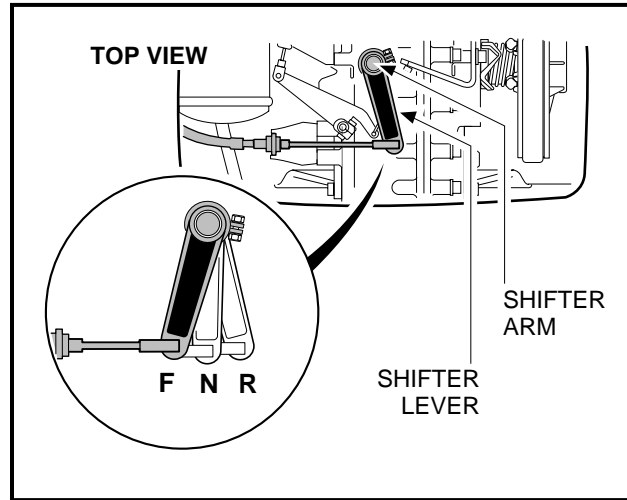
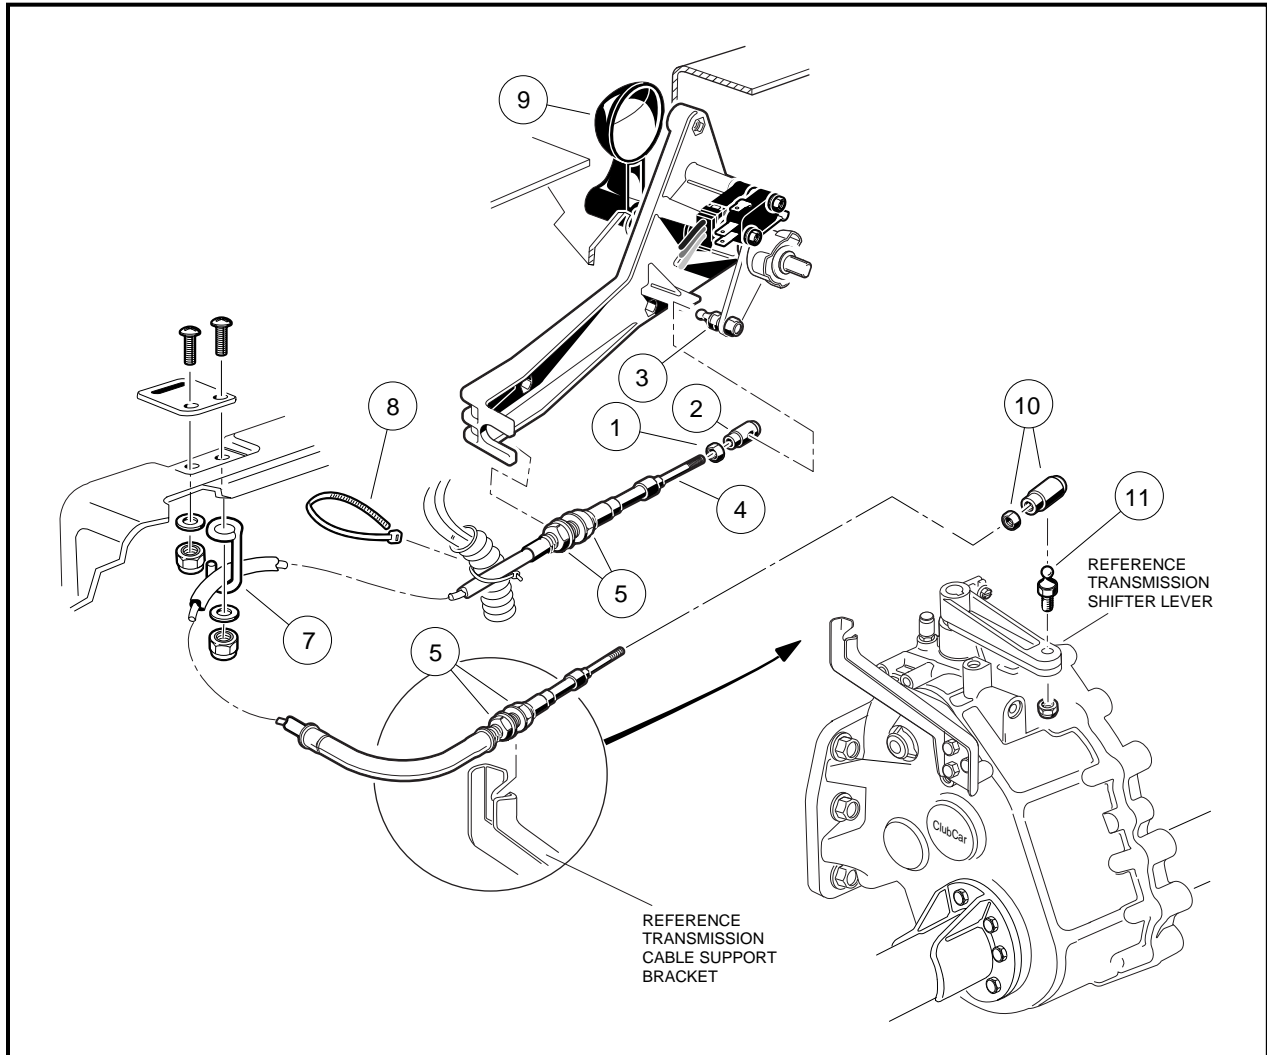

Figure 16-105 F&R Positions
Figure 16-106 F&R Shifter Cable
1. Remove the ball joint socket (2) from the F&R shifter assembly ball stud (3) (**Figure 16-106, Page 16-41**).
2. Remove the ball joint socket (10) from the shifter arm ball stud (11) on the transaxle (**Figure 16-106, Page 16-41**).
3. Loosen the retaining nuts (5) on both ends of the cable and remove the wire tie (**Figure 16-106, Page 16-41**).
2. Secure the cable with a retaining nut (5) on each side of the shifter cable support bracket at the transaxle (**Figure 16-106, Page 16-41**). Tighten nuts to 22 ft-lb (29.8 N·m).
3. Secure the cable with a retaining nut (5) on each side of the shifter cable support bracket at the F&R assembly (**Figure 16-106, Page 16-41**). Tighten nuts to 22 ft-lb (29.8 N·m).
4. Install the ball joint socket (10) on the shifter lever ball stud (11) on the transaxle (**Figure 16-106, Page 16-41**).
5. Install the ball joint socket (2) on the F&R shifter assembly ball stud (3) (**Figure 16-106, Page 16-41**).
6. Attach F&R cable at cable retainer (7).
7. Install wire tie (8) to secure wire harness to cable at the support bracket near the F&R shifter assembly (**Figure 16-106, Page 16-41**). See following **WARNING**.
With the shifter lever of the unitized transaxle in the NEUTRAL position (**Figure 16-106, Page 16-41**), the Forward/Reverse handle (21) should be straight up. For minor adjustments, the nut (1) may be loosened and the ball joint socket (2) rotated to get the proper adjustment (**Figure 16-106, Page 16-41**). **See following CAUTION.**
For major adjustments, the cable retaining nuts (5) must be loosened and adjusted. When the cable is properly adjusted, with the Forward/Reverse handle (9) (**Figure 16-106, Page 16-41**) in the NEUTRAL position, the shift lever of the transaxle will also be in the NEUTRAL position (**Figure 16-105, Page 16-40**). Retighten nuts to 22 ft-lb (29.8 N·m).